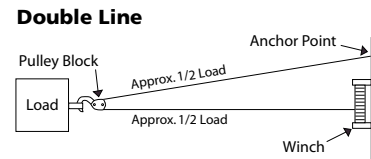

Figure 5
2. FOR LARGER LOADS, THE USE OF A PULLEY BLOCK AND HOOK ASSEMBLY TO DOUBLE LINE WIRE ROPE IS RECOMMENDED (See Figure 5). This reduces load on the winch and strain on the wire rope by approximately 50%. Do not hook back to winch. Always secure hook back to a point that is strong enough to carry the load.